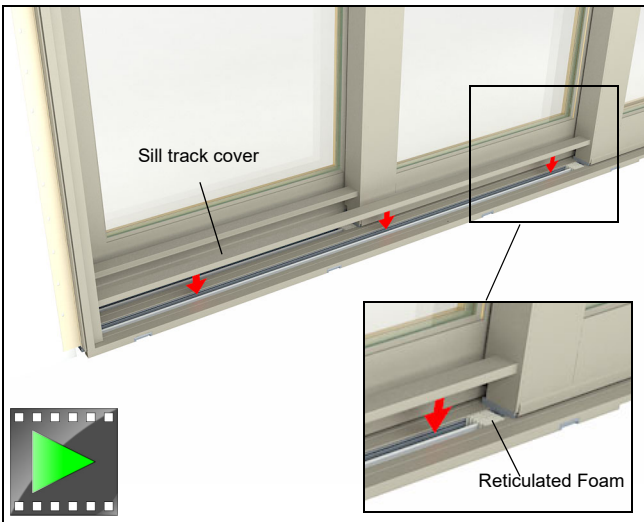

Figure 142
1. Place reticulated foam in sill track cover on end near panel(s) placement. Install sill track covers using a soft rubber mallet. *Note: Sill cover is tucked under edge of panel.* See figure 142.